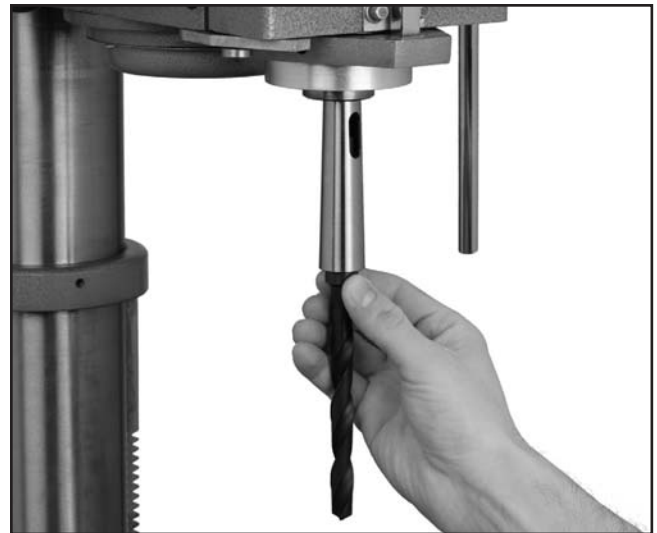

Figure 14. Installing mated tooling into drill press.
2. Slide the mated drill sleeve and tooling into the spindle socket while slowly rotating the tool as shown in **Figure 14**. The socket has a rectangular pocket where the tang of the sleeve fits into.